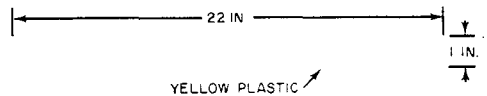

Fig. 6—G Warning Decal
3.03 The G warning decal (Fig. 6) is yellow and is used in rural areas where higher visibility is required, it is 1 inch wide and 22 inches long.